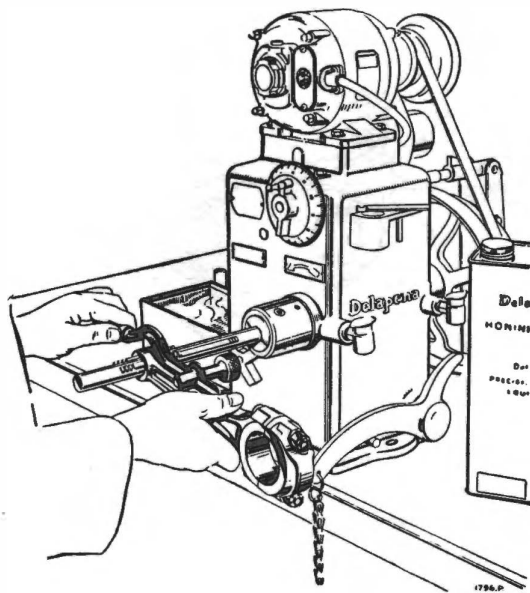

Fig. 40. Honing connecting rod little end bush
**Honing Little End Bush (See Fig. 40)**